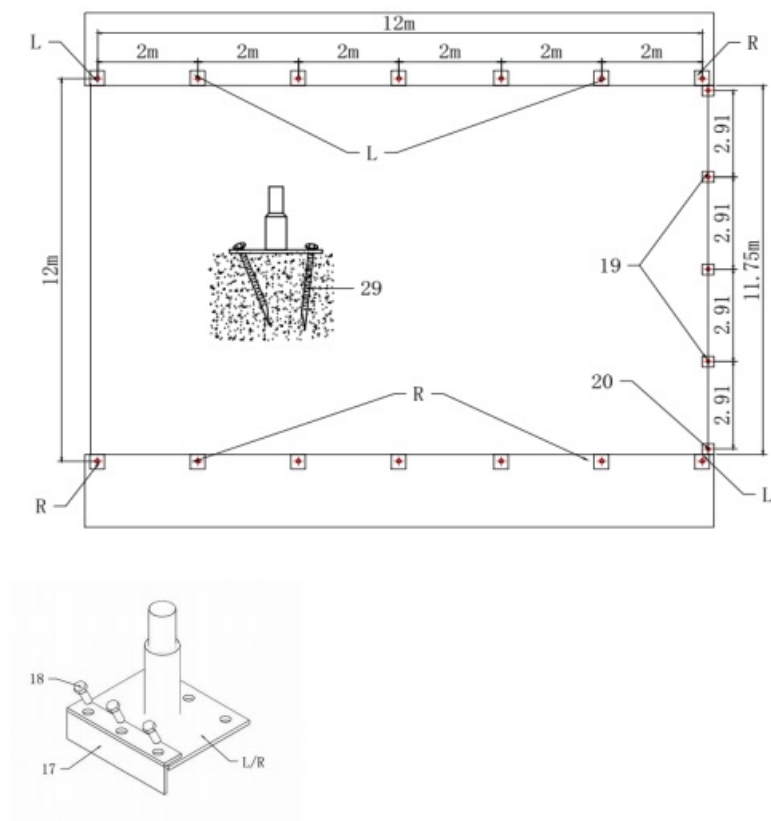

Figure 1
A–Base Installation Refer to Figure 1 for placing the base plates. Ensure the foundations are square before welding the base plates onto the containers.
- Please refer to the diagram (Figure 1) to place the base plates.